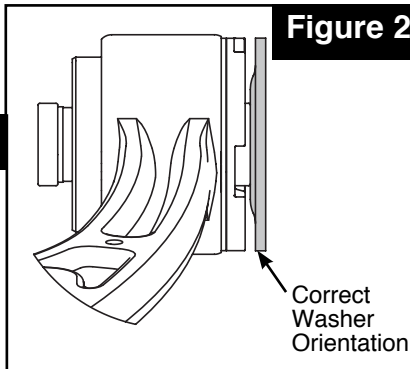

Figure 2
8. Remove second OE washer from head of long arm-to-frame mounting bolt and discard both OE washers. Replace it with a supplied offset washer. When installed, offset washer flange should be away from bushing flange, see **Figure 2**.
9. Install SPC control arm, using OE long arm-to-frame bolt. Place second supplied offset washer over protruding end of bolt. Again, be sure that offset washer flanges are installed away from bushing flange, see **Figure 2**.